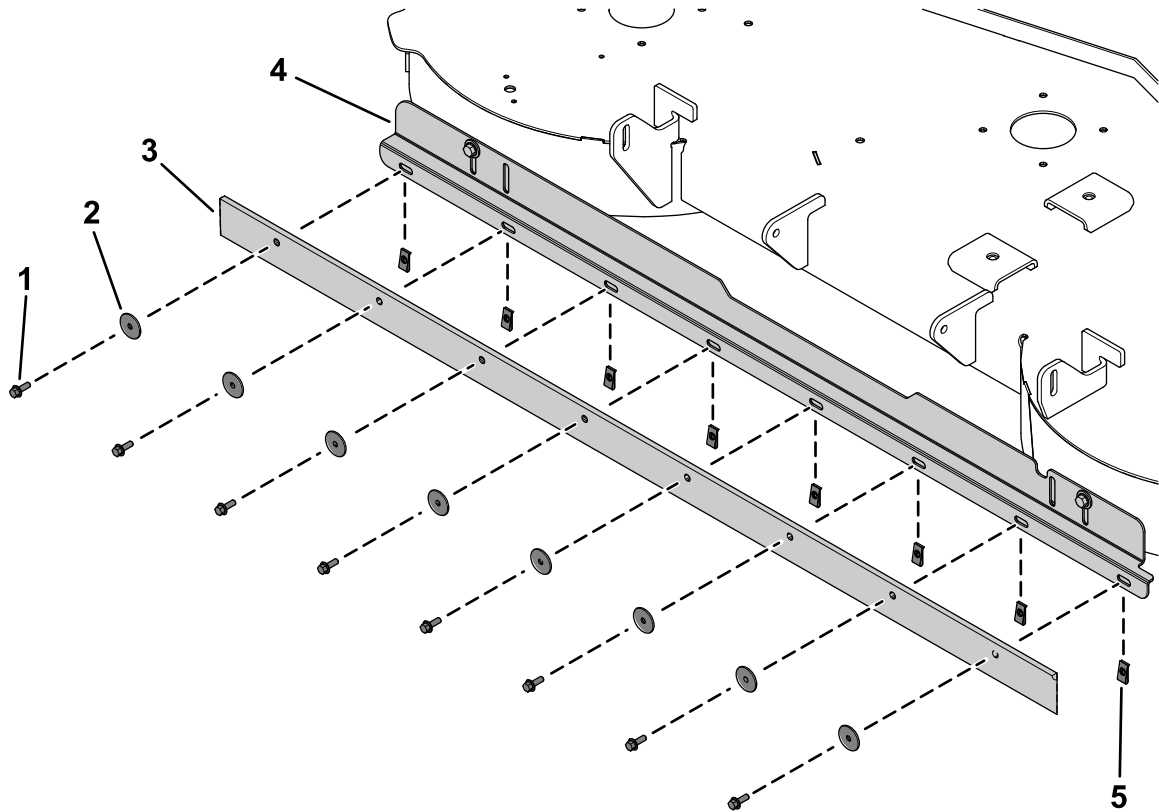

Figure 7
1. Install the 8 speed nuts onto the striping bracket (Figure 7).
2. Secure the wiper to striping bracket and speed nuts using 8 hex-head screws (1/4 x 3/4 inch) and 8 washers (Figure 7).